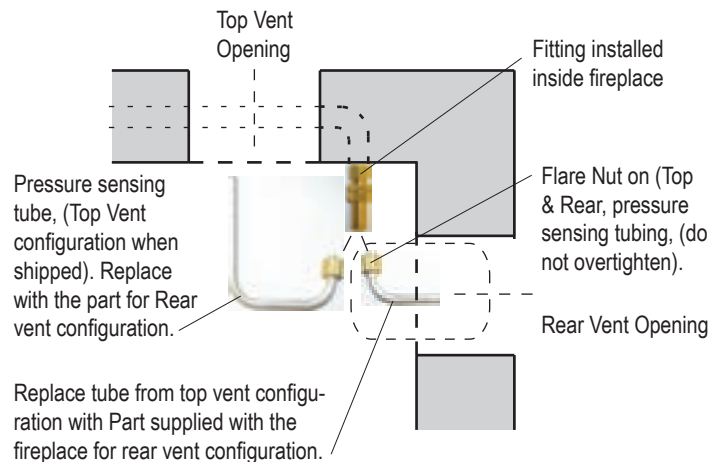

**Figure 10.** Flue cap installation, Top Vented fireplace.
3. Now, remove the Top vent (5" inner and 8" or 10" outer) flue Collars. Switch the Collars and Cover plates as shown in, **Figure 10**.